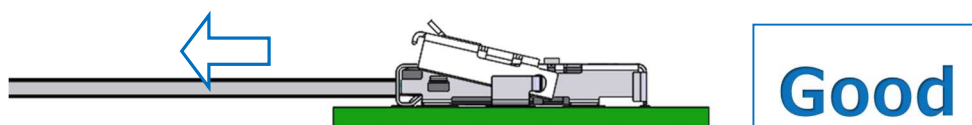

図. 3-3 FFC 抜去方法 2 / Fig.3-3 FFC removal method 2
## ③ 図 3-3 の様に、FFC を水平に引き抜く。
Pull FFC horizontally as shown in Figure 3-3.